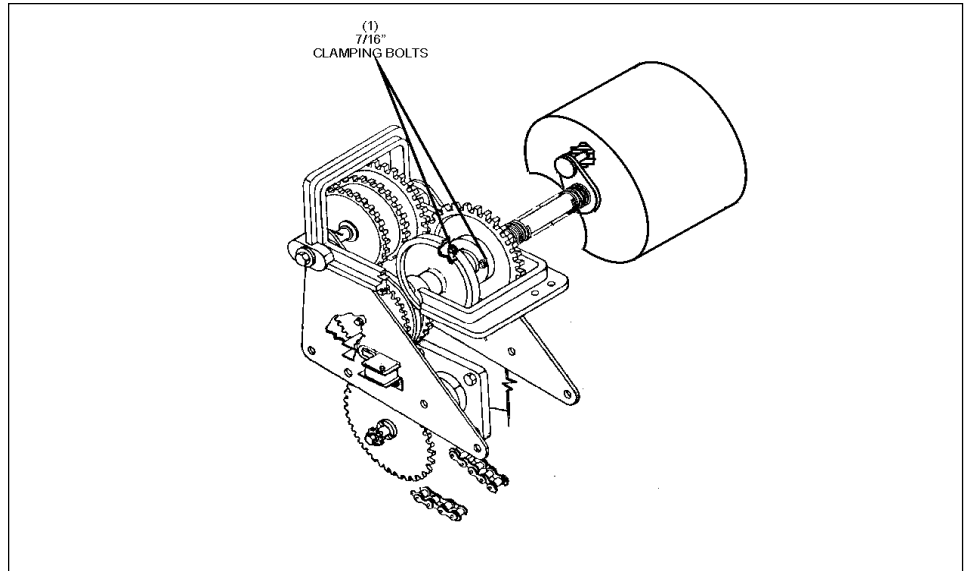

Figure 20. Loosen Bolts Holding Clamping Plate
8. Using a 7/16 inch wrench, loosen the two (2) bolts on the clamping plate to the spur gear, so that the compound shaft will rotate freely. Refer to *Figure 20*.